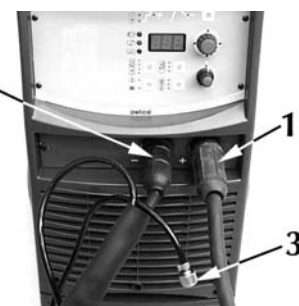

Fig. 6
- 1) Connect the earth clamp (Fig. 6) to the positive socket (+) of the generator.